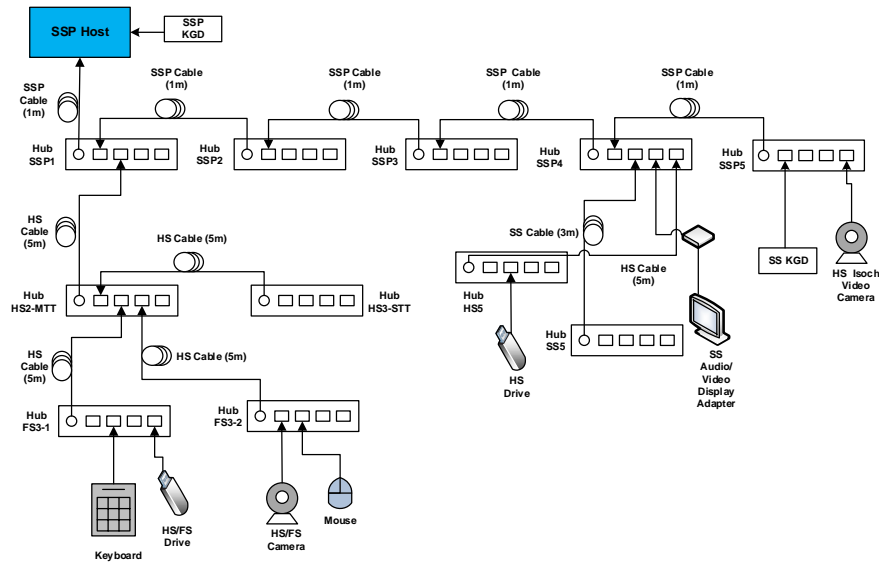

Figure 11-4: Modified SSP Host Interoperability Interim Tree (with SSP device and SSP Hubs Interop Tree)
- Connect one SSP DUT/KGD at root port. On a second port of the SSP host connect the SSP tree as shown in Figure 11-4
- Disconnect the SSP device from root port and connect it behind SSP5 (refer to Figure 11-4)
- Disconnect the SSP device from SSP5 and connect it behind SS5 (refer to Figure 11-4)
- Disconnect the SSP device from SS5 and connect it behind HS5 (refer to Figure 11-4)
- Disconnect the SSP device from HS5 and connect it behind FS3-1 (refer to Figure 11-4)